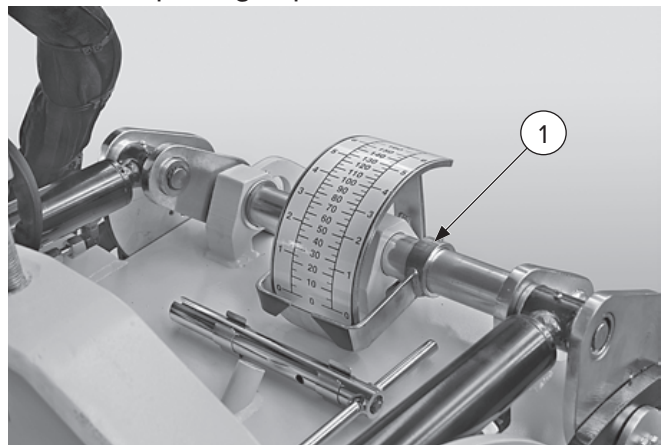

Figure 9
5. Loosen the set screws [Figure 9, Item 1] on both depth indicator arms.